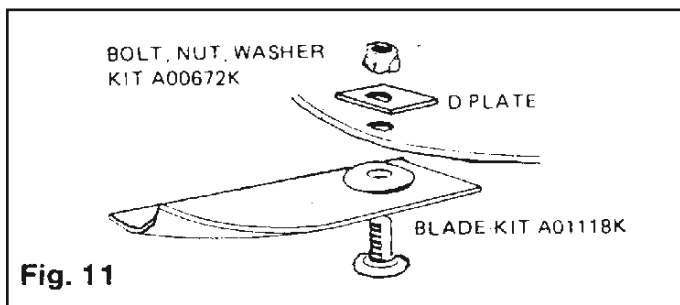

Fig. 11
5. Fit new blades and fasteners together in sets for safety and balance. Take care to assemble parts in correct order. (Fig. 11)